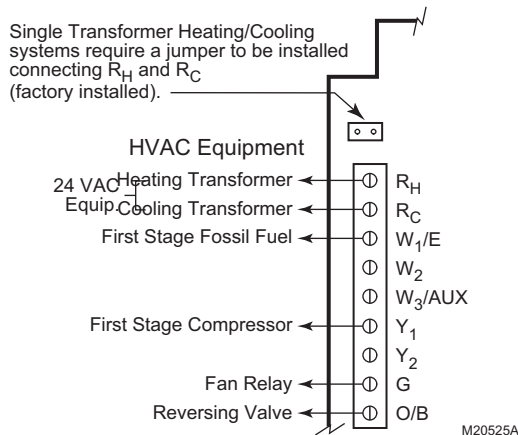

Fig. 21. Dual Fuel with single-stage heat pump and single-stage fossil fuel.
- Connect compressor to Y1. See Fig. 21.